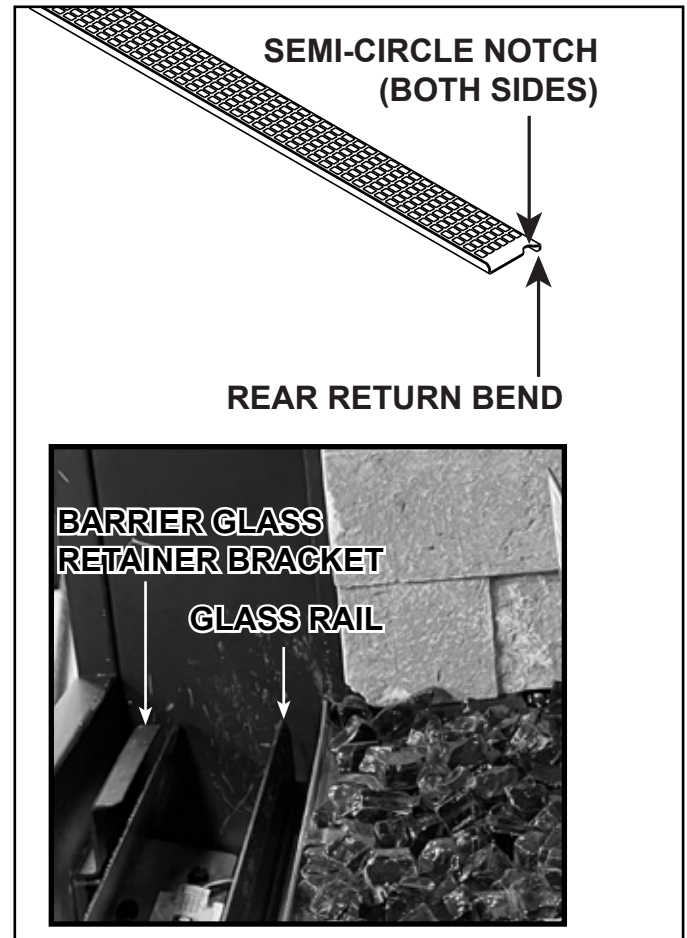

Figure 11.19 Install Transition Media Tray
1. Set and press the transition media tray into position as shown in Figure 11.19. The rear return bend should be positioned in between the glass frame and the glass rail so the semi-circle notches will face the glass. The front of the media tray is seated on the SafeSurface barrier glass retainer bracket.
3. Ensure no glass media is in the SafeSurface barrier glass retainer bracket. Set the glass into the barrier glass retainer bracket, located behind the sheet rock ledge and the front side of the transition media tray. Center the glass left to right. See Figure 11.19.